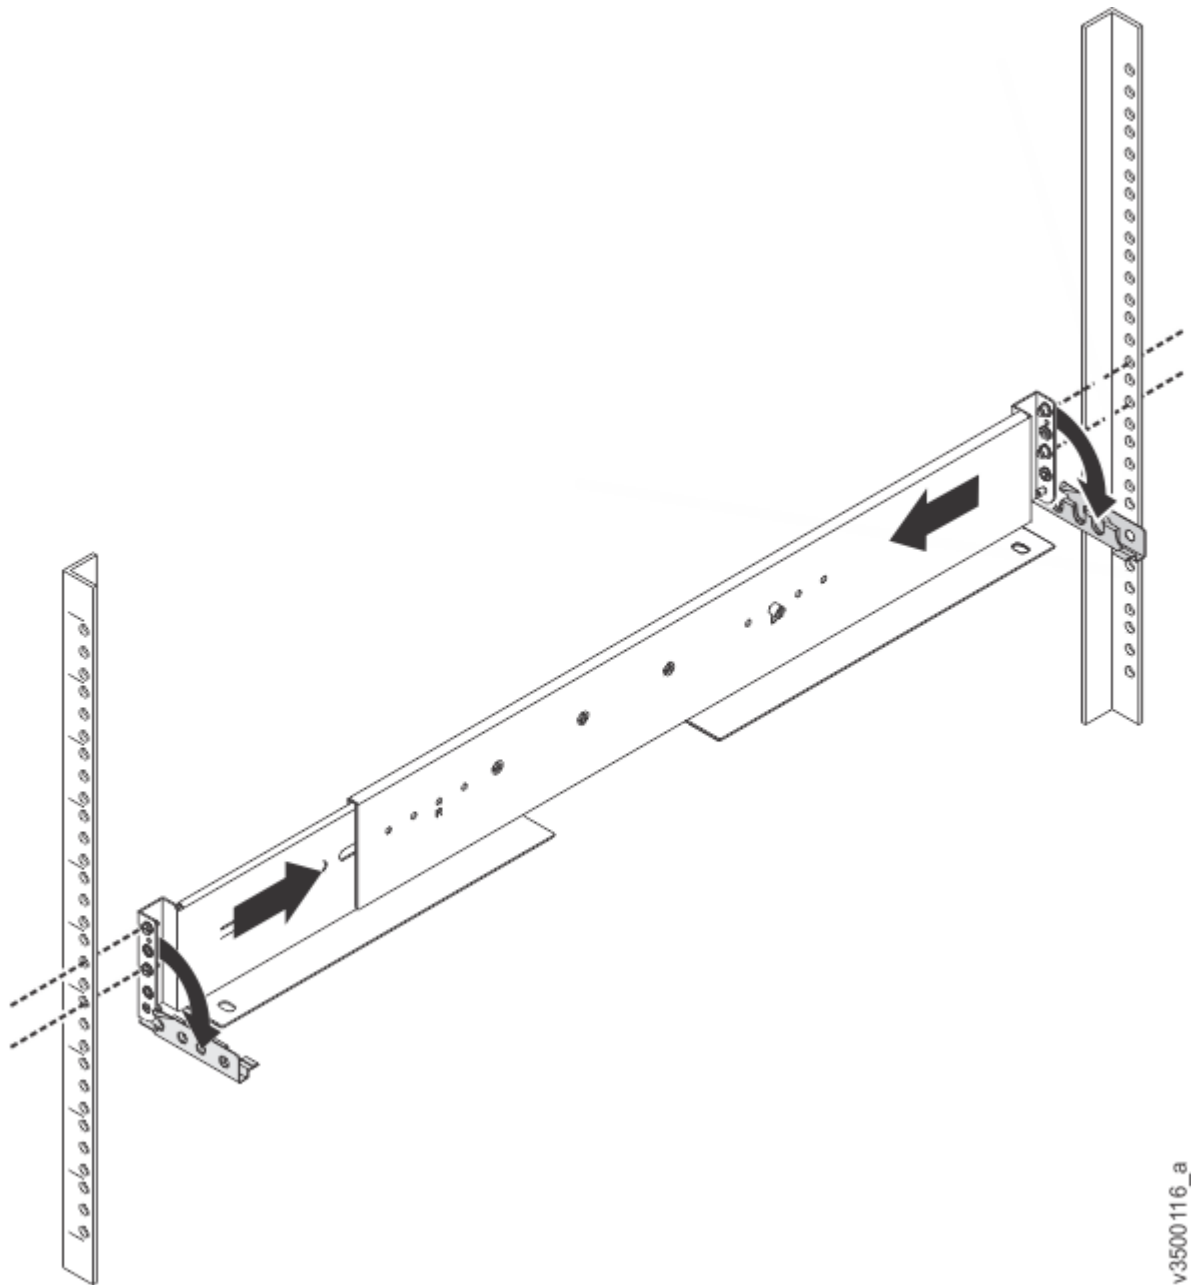

Figure 76. Compressing rail for removal from rack
11. Compress the rail against its spring to shorten it, then remove it from inside the rack (Figure 76 on page 139).